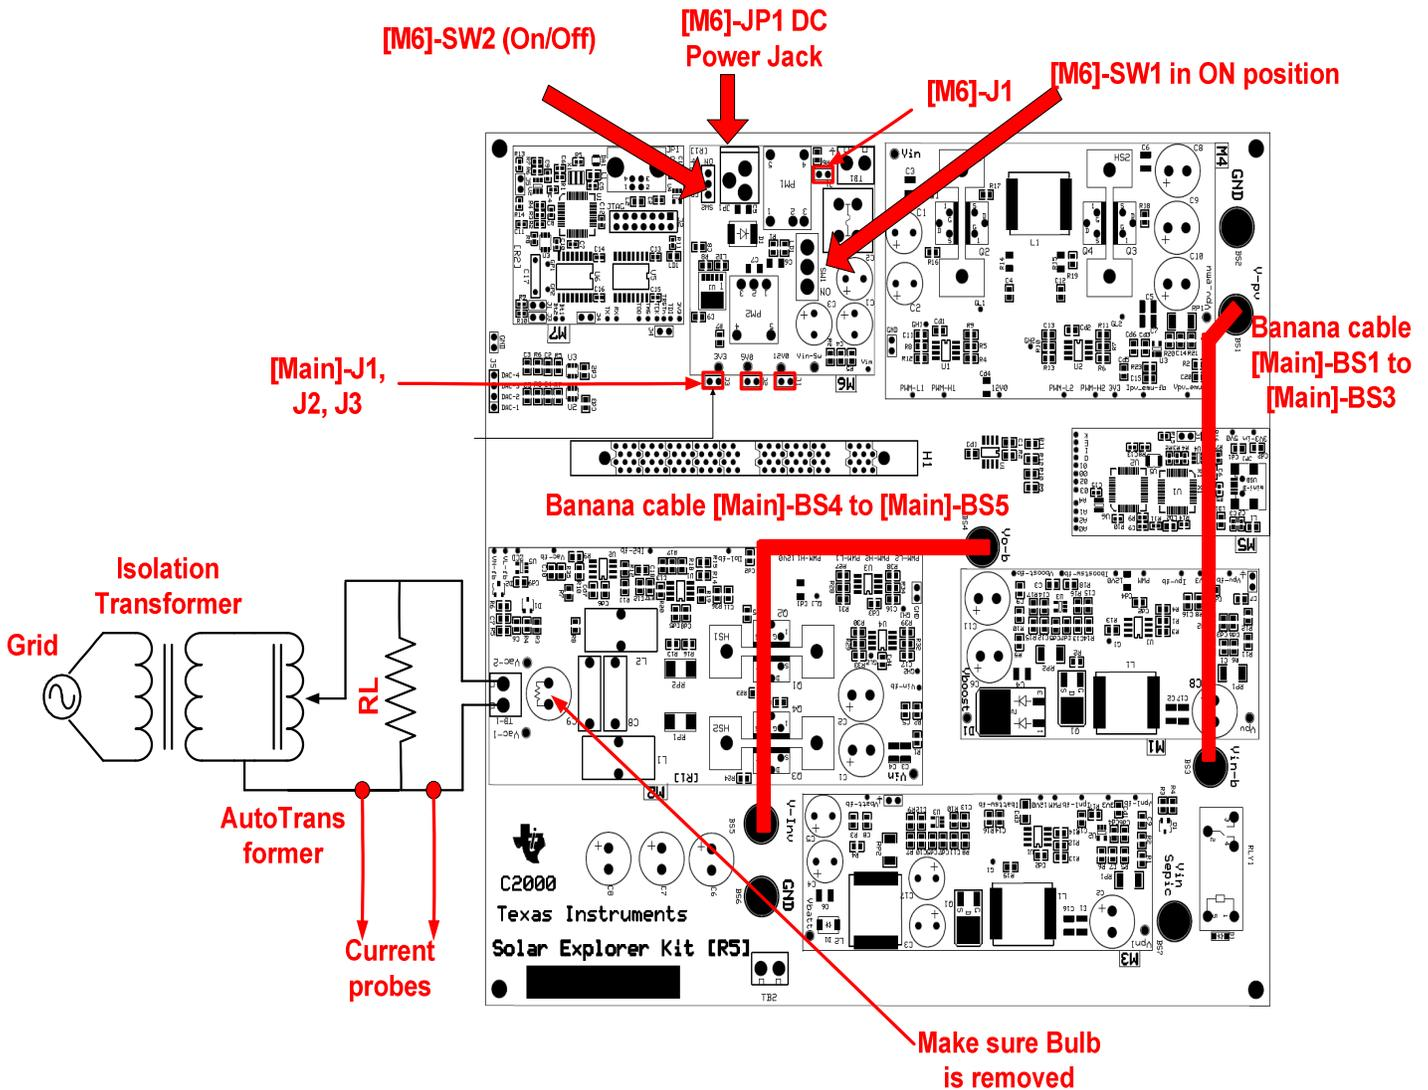

Fig 40 Hardware Setting for Build 3
- Fig 40 shows the hardware settings for the Build 3 test.
- First move the autotransformer to 0 setting and make connection with the resistive load and the solar explorer board with the grid as shown in the Fig 40.